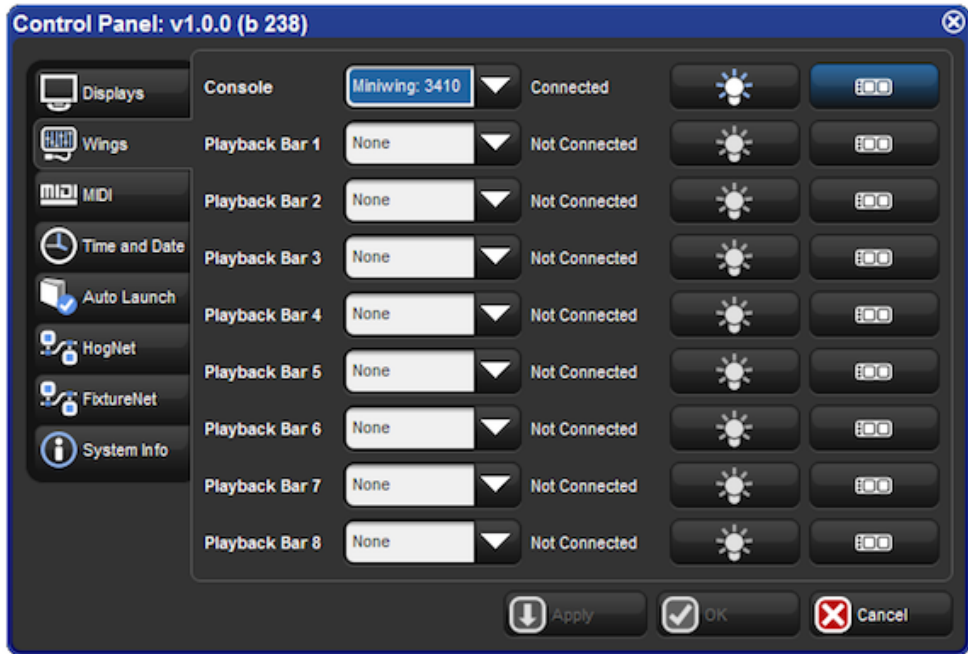

Figure 3.14. The Wings pane of the Control Panel with Playback Wing Mapping
2. Setup → Control Panel → Wings : open the Wings pane of the Control Panel window (see *Figure 3.14, "The Wings pane of the Control Panel with Playback Wing Mapping"*).